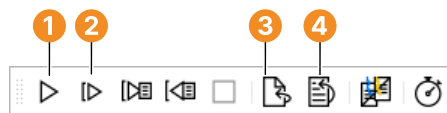

Figure 2.5: The basic execution buttons.
- Click Execute > Run or click the corresponding button 1 from the tool bar (see figure 2.5).
- Click Reset Program Execution (4) to reset the program to its initial state. (see figure 2.5).
- Using the button Step Over (2) you can execute the program line by line and inspect the immediate effect of each instruction.